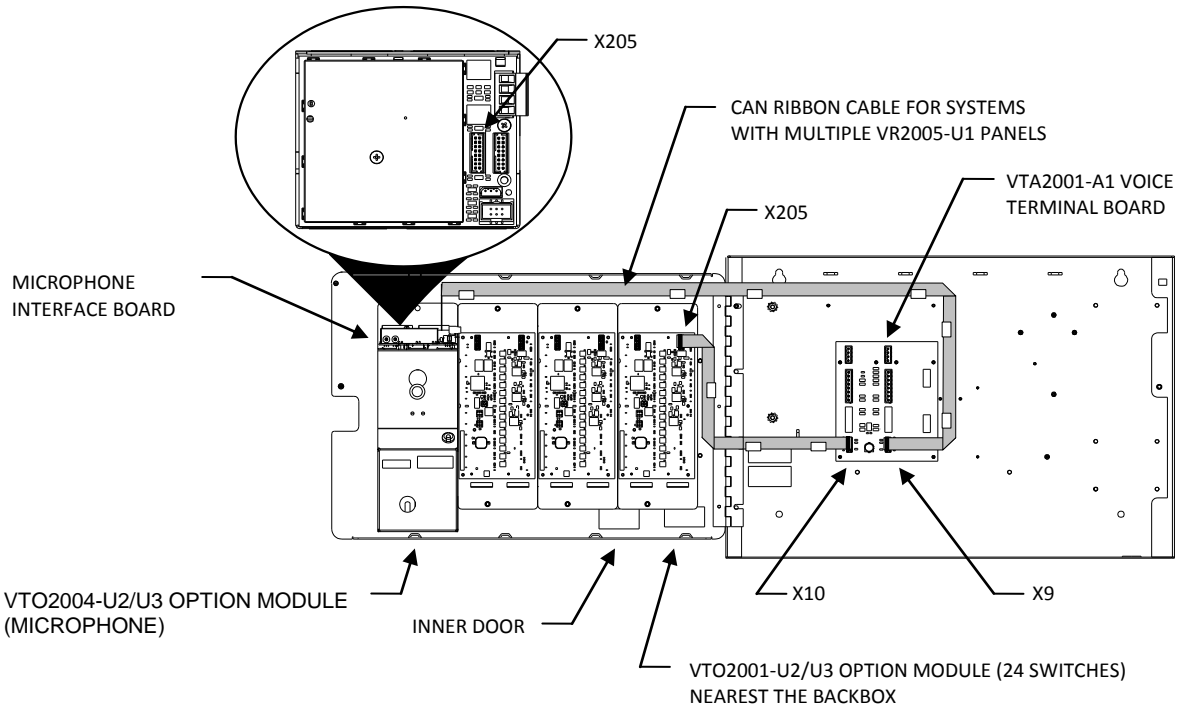

Figure 10
- If there is more than one remote microphone station in the system, an additional ribbon cable is installed in all the intermediate stations. That cable is installed between connector X205 on the Microphone Interface Board (MIB) which is located on top of the microphone module and connector X9 on the terminal board (see Figure 10). This cable continues the CAN bus “daisy chain” to the next station in the system. If instead there is only one remote microphone station in the system or the microphone station is the end station in a multi-station system, the cable is not used. All that is installed is an A5Q00055918D End-of-Line terminator in connector X205 of the MIB.